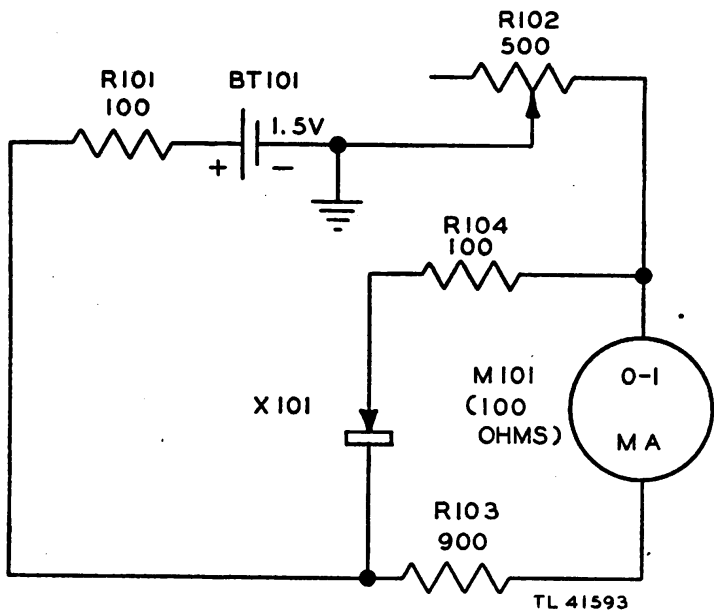

Figure 9. Meter-adjusting circuit for back current measurements, simplified schematic diagram.
(5) *MTR ADJ Position* (fig. 9). When the selector switch is in this position, battery BT101, fixed resistor R101, and variable resistor R102 are connected in series with a two-branch parallel circuit consisting of the crystal rectifier and resistor R104 (100 ohms) in one branch, and meter M101 (100 ohms) and resistor R103 (900 ohms) in the other branch. The connections to the crystal rectifier are such that the backward resistance of the crystal is in the circuit. Since the backward resistance of a crystal rectifier is quite high, the effective resistance of the parallel circuit is essentially that of the branch containing the meter and resistor R103, or 1,000 ohms. This circuit is used to adjust the meter pointer to full-scale deflection before measuring the current in the reverse direction through the crystal rectifier. Since the sensitivity of the meter is 1 milliampere, adjustment of resistor R102 to give full-scale deflection of the meter pointer causes a potential of